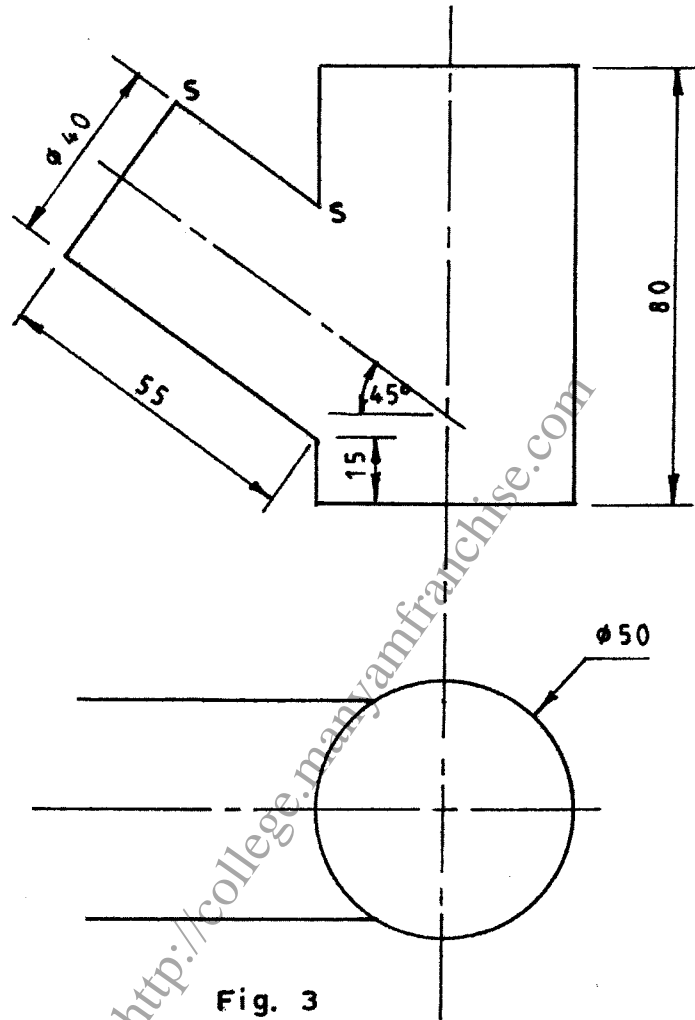

Fig. 3
4. Figure 3 shows the intersection between two unequal pipes. Copy the given views and